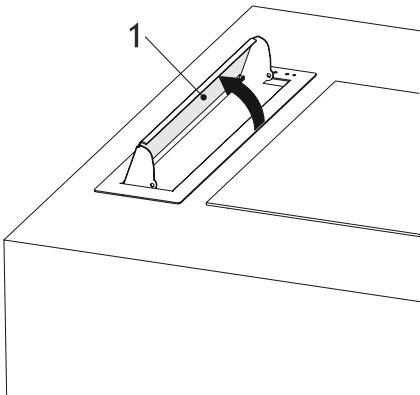

Fig. 7
1. ➔ ■ Open side suction glass on the direction of the arrow (Fig. 7).